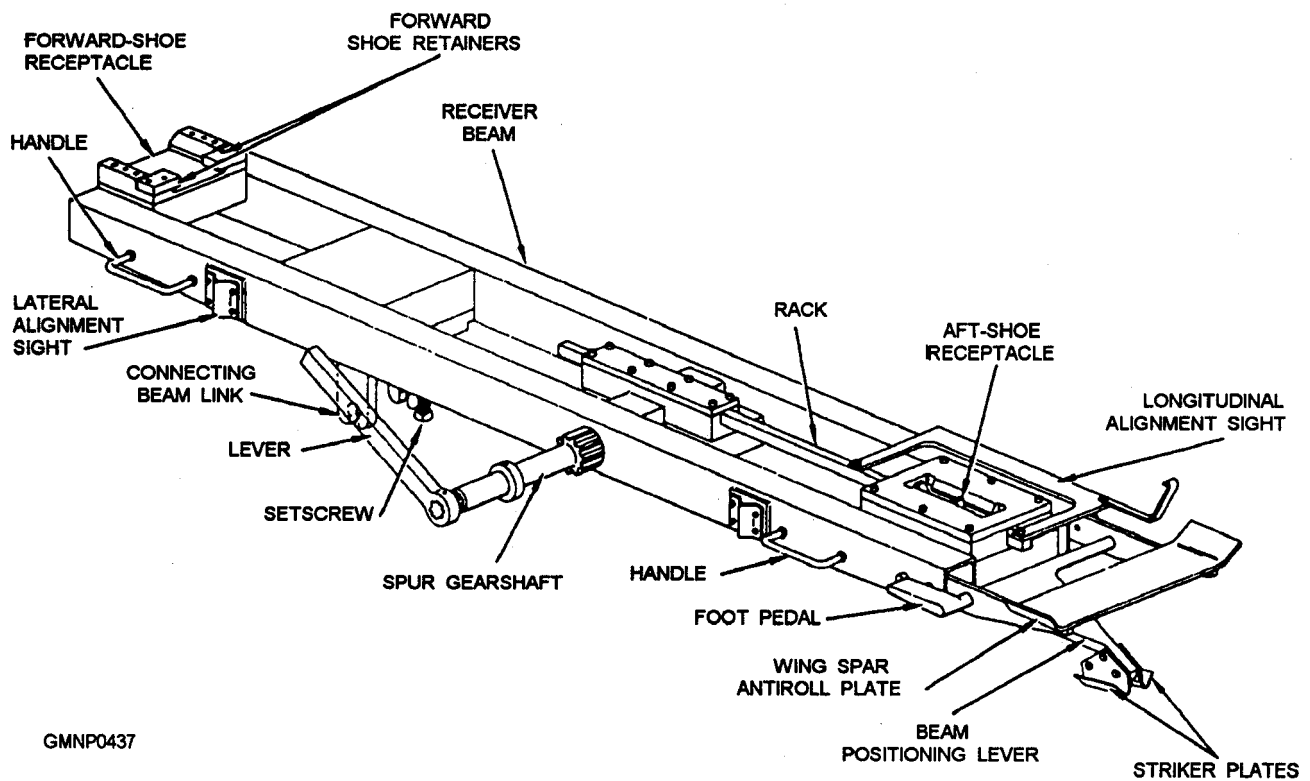

Figure 8-11.—AAW missile receiver beam.
**AAW Receiver Beam.**— The AAW missile receiver beam is shown in figure 8-11. It is used to transfer the missile between the transfer dolly and the strikedown beam. The beam is connected and secured to the receiver piston. It is allowed some “floating” movement to aid in missile alignment.